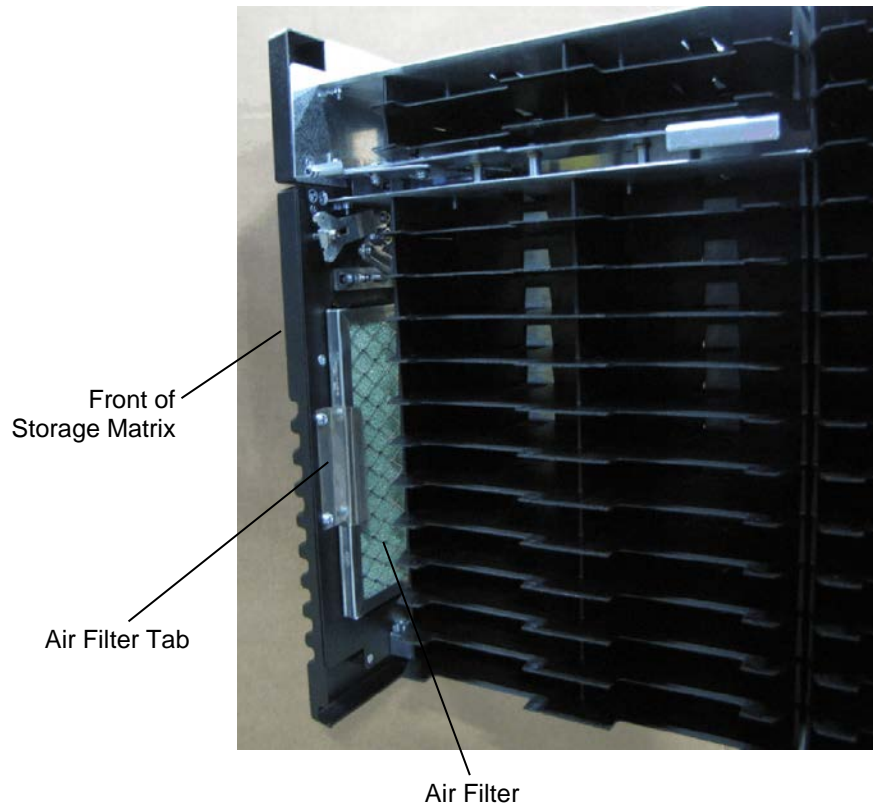
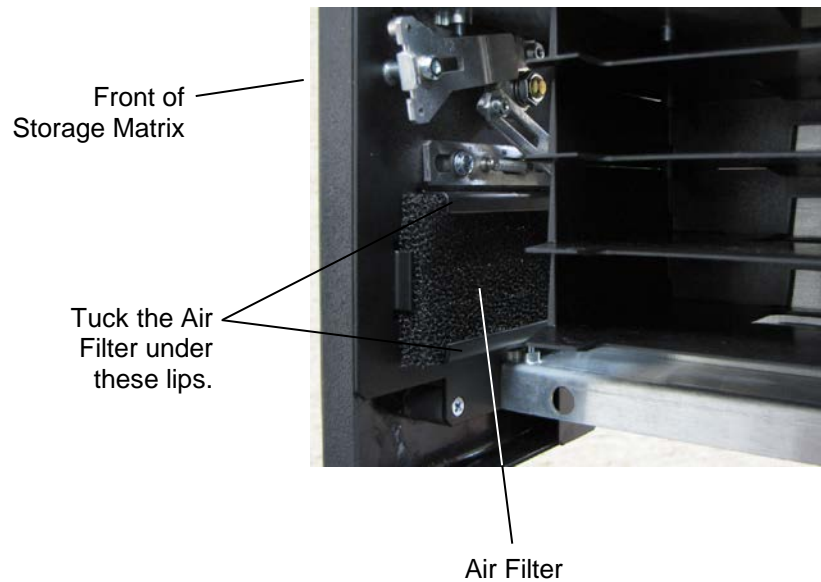

Figure 7-26 Air Filter with a Storage Matrix Open (RLS-85XX shown)
Figure 7-27 Air Filter with a Storage Matrix Open (RLS-8350 shown)
1. Visually inspect the air filter element in the front of each storage matrix (Figure 7-26 and Figure 7-27).